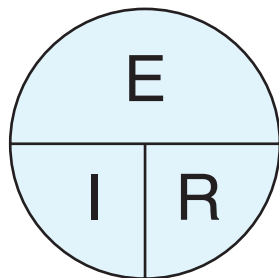
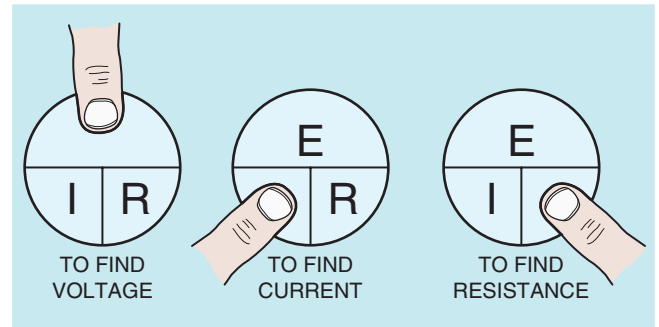

FIGURE 3-18 Chart for finding values of voltage, current, and resistance.
FIGURE 3-19 Using the Ohm's law chart.
Figure 3-18 shows a simple chart that can be a great help in remembering an Ohm's law formula. To use the chart, cover the quantity that is to be found. For example, if the voltage, E, is to be found, cover the E on the chart. The chart now shows the remaining letters IR (Fig. 3-19), thus $E = I \times R$. The same method reveals the formulas for current (I) and resistance (R).